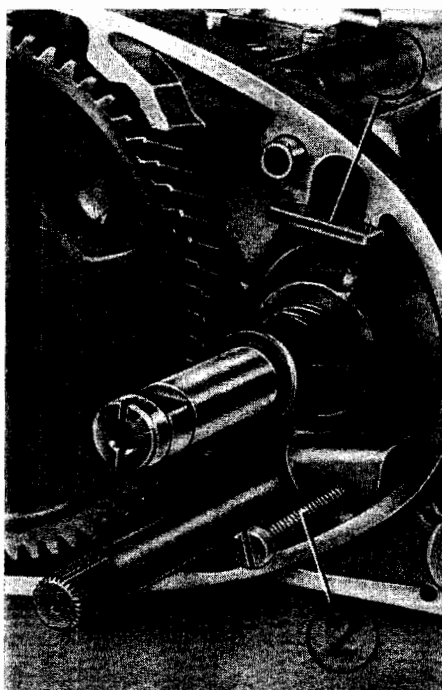

Fig. 81. Correct position of the cam plate
1. Pressure spring (2) — spring force 14.7 N (1.5 kg) — must be shifted on the kick-starter shaft (1).
2. Shift the driver (3) and the cam plate (4) on the spline profile — for mounting position see Fig. 81.
4. Grease the bore-hole of the kick-starter wheel (6) and fit 24 bearing needles (allowance minus $5.5 \mu\text{m}$ and all needles of the same allowance)
5. Fit the kick-starter wheel and the check plate (8) and fasten them with a snap ring (9).
6. Insert the kick-starter spring with the end bent to the centre of the spring into the bore-hole (10) of the kick-starter shaft.
Insert the cam plate with the nose (1) into the casing as is illustrated in Fig. 81. The fastening screw (2) retains the plate at the lower end.
In Fig. 81, the casing cover is not mounted for the purpose of giving a clear illustration.